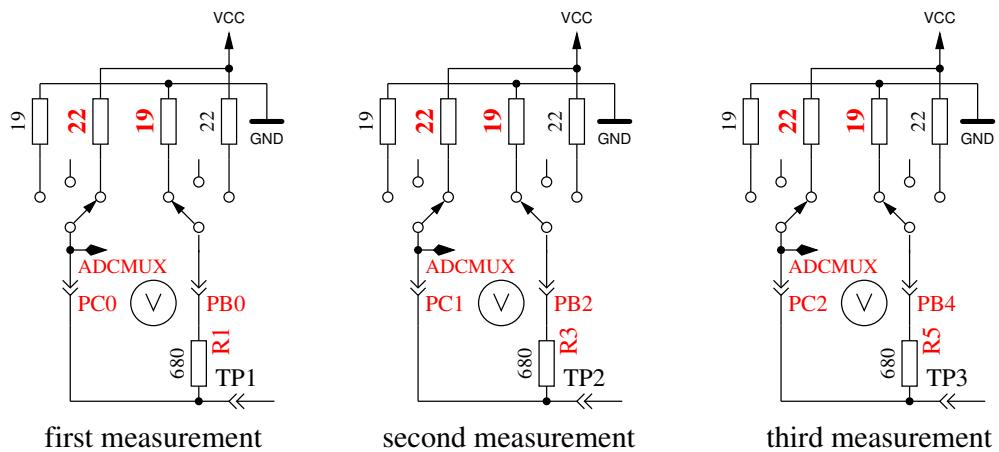

Figure 5.64. Measurement of internal resistance of Port C switched to VCC
9. **Measuring of internal resistance of port outputs switched to the VCC (+)signal.** The needed current is generated with to GND connected 680 $\Omega$  resistors . It are the same measurements as those in test 8 to the other side as you can see in Figure 5.64. With the following steps the resistance is computed: To get the current, the following is computed:  $(VCC - (resultoftest8) - (resultoftest9))/680$ . To get both resistor values, the voltage (result of test 8 or 9) is divided by this current. The result for this test will then be notified in row 1 with the text "RI\_Hi=", the resistance value ( $\Omega$ ) to the GND side is displayed in row 2 with the text "RI\_Lo=". Beginning with version 1.06k of the software, the port output resistance values are determined at the beginning of every measurement. The values are only shown by this step.